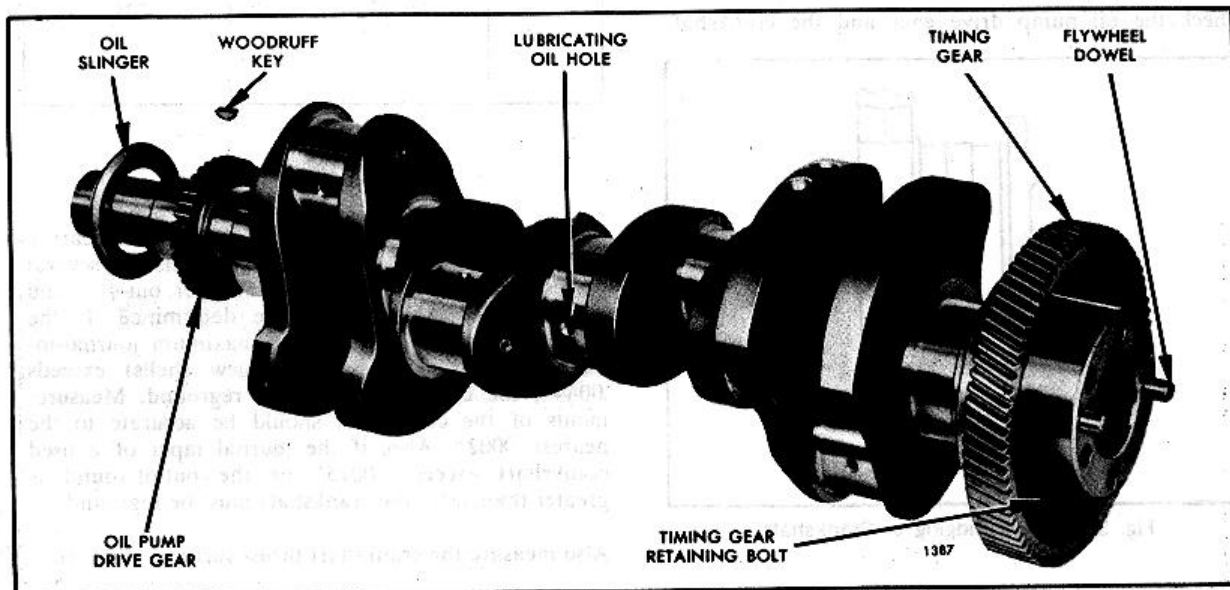

Fig. 2. Typical Crankshaft, Timing Gear and Oil Pump Drive Gear Assembly-Four Cylinder Engine
20. Remove the crankshaft, including the timing gear and oil pump drive gear (Fig. 2).